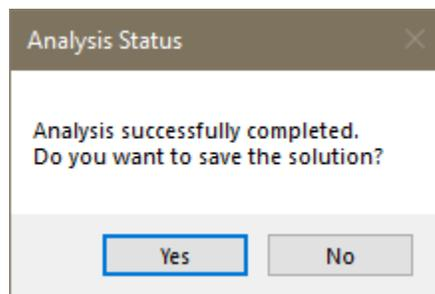

Figure 3-6
- Upon completion of the Analysis process the program prompt you to save the solution as shown in **FIGURE 3-6**.